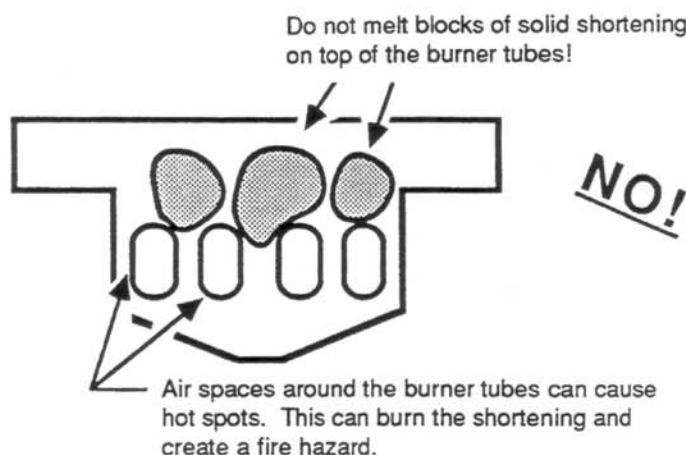
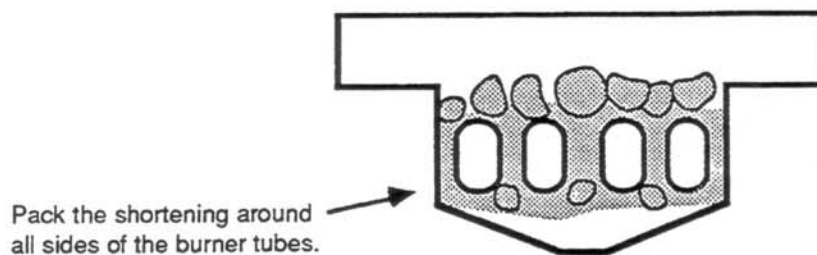

Fig. 4
Fig. 5
Warning! Do not try to melt a block of solid shortening by placing it on top of the burner tubes, as shown in Fig. 4. If you are using solid shortening, cut the shortening into blocks and pack it around the burner tubes, leaving no air spaces. See Fig. 5. If you leave any air spaces, the burner tubes may burn the shortening as they heat up. This could create a fire hazard. This will also void the warranty on the frying kettle.
3. If you are using solid shortening, cut the shortening into chunks, and pack it around the burner tubes, as shown in Fig. 5.